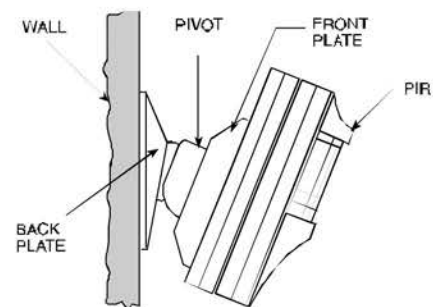

Figure 2. PIR and Adjustable Bracket Installed
OPTICAL (see Fig. 2)
4. Walk-test - see fig. 2. Perform walk across the far end of coverage pattern in both directions. The LED should light for 2-3 seconds each time your motion is detected.
2. Position the backplate (1) on the wall in the desired location. Using the backplate, mark the two screw holes to be drilled.
3. Drill the two holes where marked and securely fix the backplate to the wall with the furnished pan-head screws and anchors. Be careful to position the ribs (3) upward.
4. If required, center the backplate ball (11). With your fingers, insert the locking screw (6) into the backplate ball and shift the ball until the hole faces exactly forward. Remove the screw.
6. Punch out the screw hole knockout (5) in the PIR's back (7).
7. Hold the PIR's back with the top side facing up. Insert the front plate mounting standoffs (8) into the holes in the PIR back.
8. Mount the pivot (4) onto the front plate, taking care to position the large curve (10) downward.
9. Insert the locking screw (6) into the hole in the PIR's back (7), through the front plate (9) and pivot (4), and into the backplate ball (11). Turn the screw down **but do not yet secure it tightly**.
12. Reassemble the PIR and walk test in accordance with the installation instructions (see figure 2).